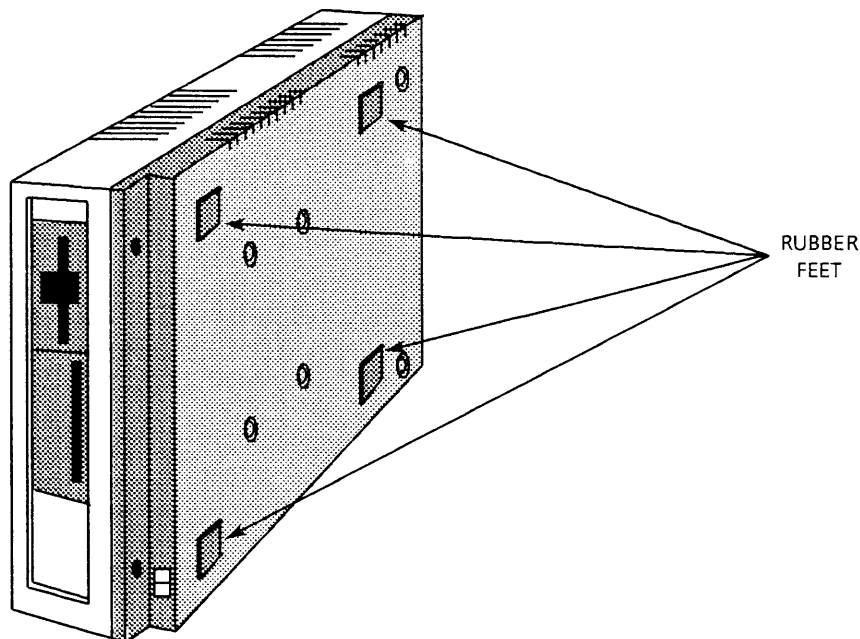

Figure 3-1. Attaching the Rubber Feet
1. Tilt the system on its side as shown in Figure 3-1.